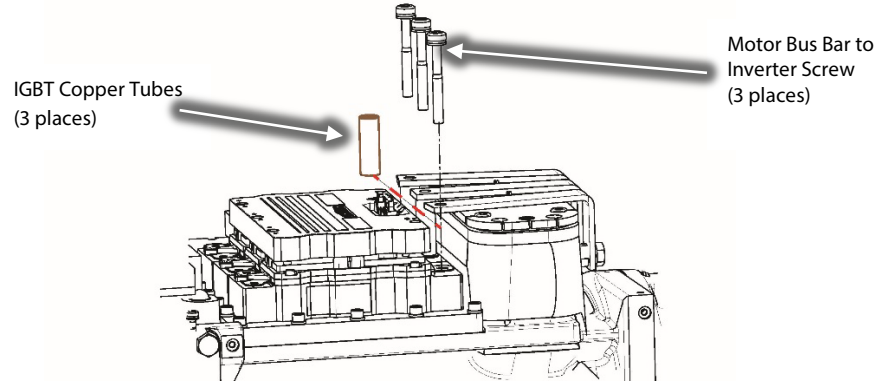

Figure 15 – Copper Tube Removal
24. Remove the Motor Bus Bar screws, copper tubes, and washers from the Inverter. Refer to Figure 15 (Copper Tube Removal).
NOTE: The Motor Bus Bars do not need to be removed. Figure 15 (Copper Tube Removal) is only used to provide clarification of the individual components.